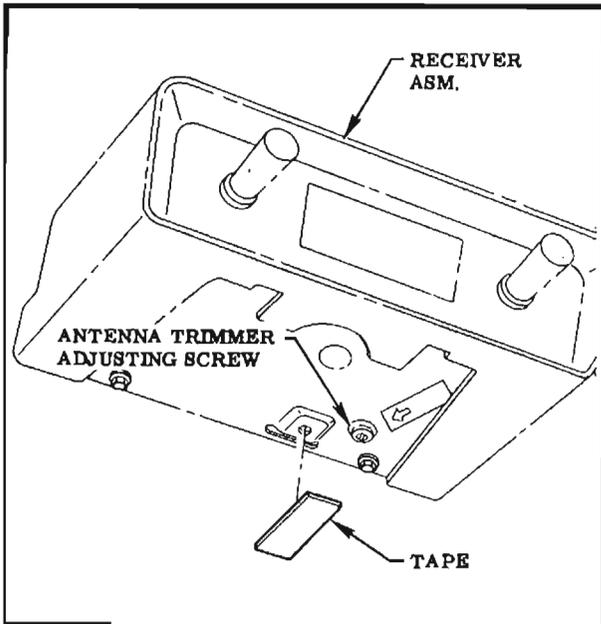

FIG. 4 BOTTOM VIEW—RECEIVER ASM.
STEP 11 COVER HOLE IN RECEIVER BOTTOM WITH TAPE, TO ELIMINATE EXCESSIVE LIGHT. SEE FIG. 4.
STEP 18 EXTEND ANTENNA TO FULL HEIGHT, TURN RECEIVER "ON", SET CONTROLS TO MAXIMUM VOLUME, & TUNE-IN A WEAK STATION BETWEEN 800 & 1000 KILOCYCLES. ADJUST ANTENNA TRIMMER FOR MAXIMUM VOLUME (FOR LOCATION OF TRIMMER ADJUSTING SCREW SEE FIG. 4).